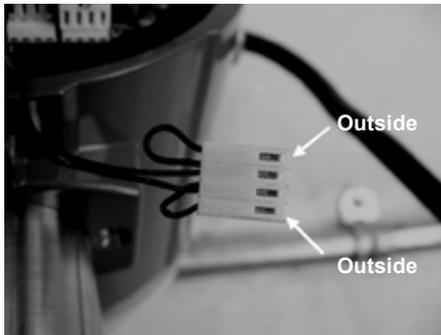

Fig. 55 Temperature Sensor Connector
3. Using ESD precautions and hazardous area precautions, remove the electronics enclosure window cover. Disconnect the temperature sensor from the electronics stack or the remote feed through board. Refer to Figure 55. Measure the resistance across the outside pins of the temperature sensor connector. It should read approximately 1080 ohms at room temperature (higher resistance at higher temperatures).